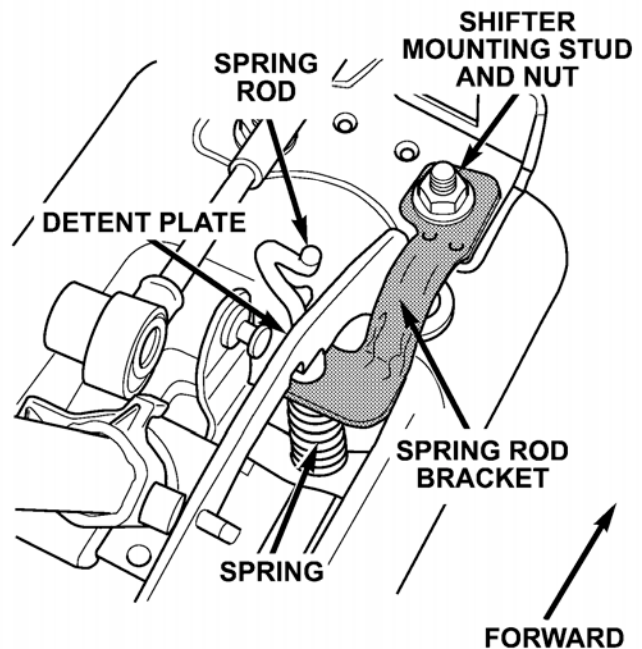

Figure 4
9. Install the spring rod and spring rod bracket assembly under the detent plate and onto the front mounting stud (Figure 4).